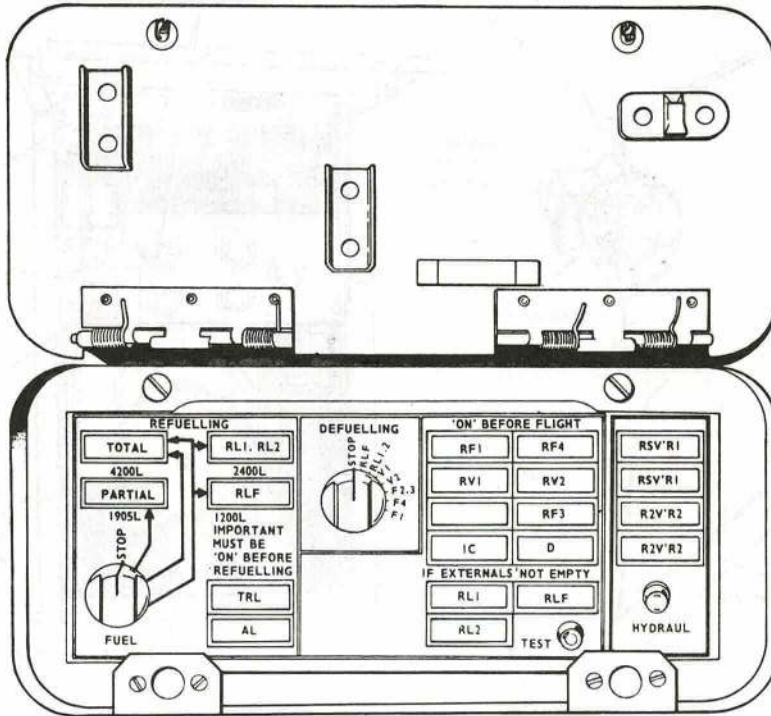

Fig 6.1.9 Refuelling panel with partial load selectors
29. **Partial fuel load.** Some aircraft fuel systems include partial load selectors which are mounted on the refuelling control panel (Fig 6.1.9). Where special selectors are not fitted, the partial fuel load must be obtained by use of the manual selector switches.